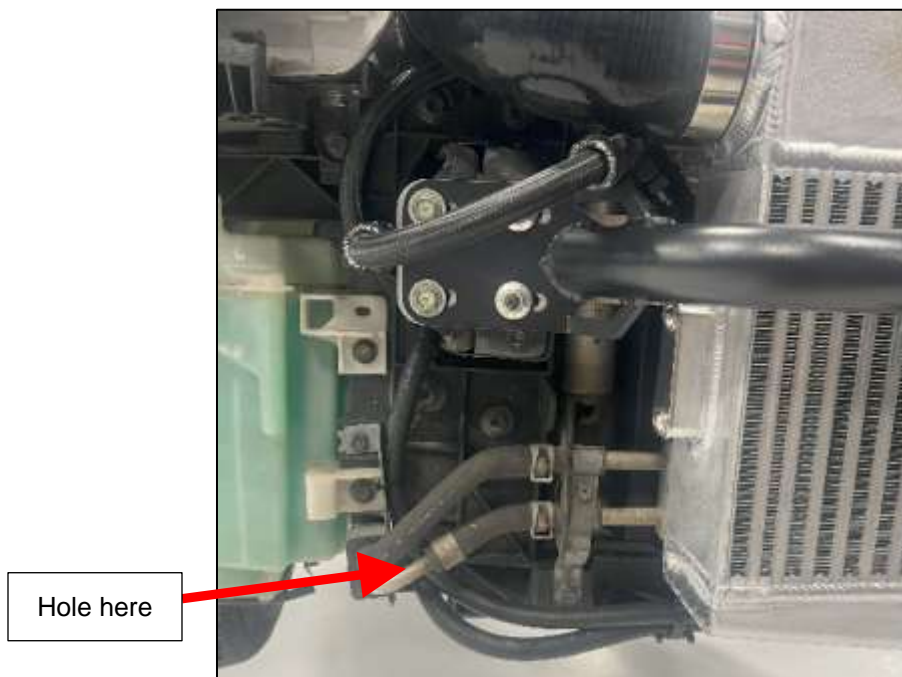

Figure 40
15. **G37 Owners:** Drill a hole in the bottom left (passenger) corner of the core support. Route the hose connecting to the bottom of the Fluid Reservoir in the wheel well through that hole. *Figure 40.*